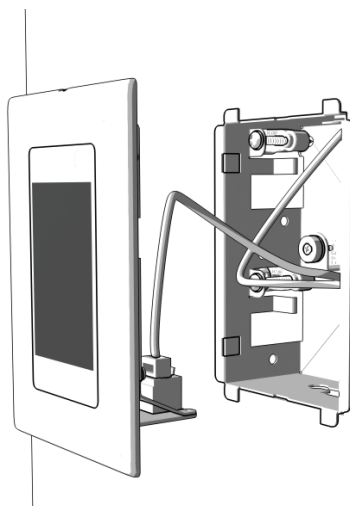

Figure 9: Attaching Assembly
12. Attach the assembly to the mounting frame as shown in Figure 9.